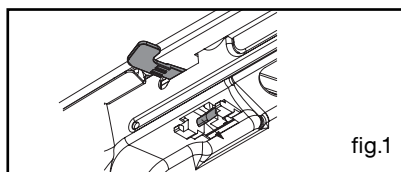

fig.1
- Press the switch on the panel until the system is engaged and then close the door (fig.1).
provided for this purpose on either side of the front side panels (fig.1).